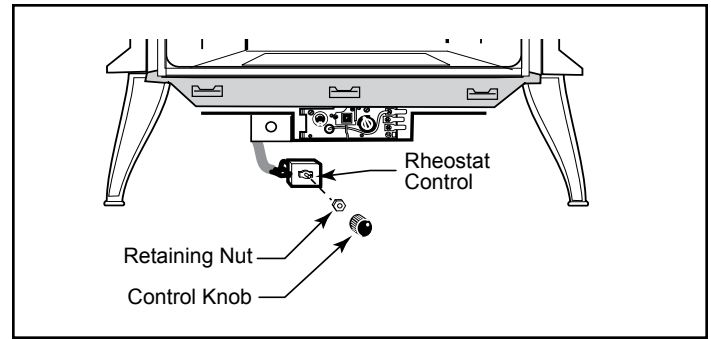

Figure 42 - Attach rheostat to left side of valve.
3. The rheostat control switch attaches to the left side of the valve bracket at the front of the stove. (Figure 42)